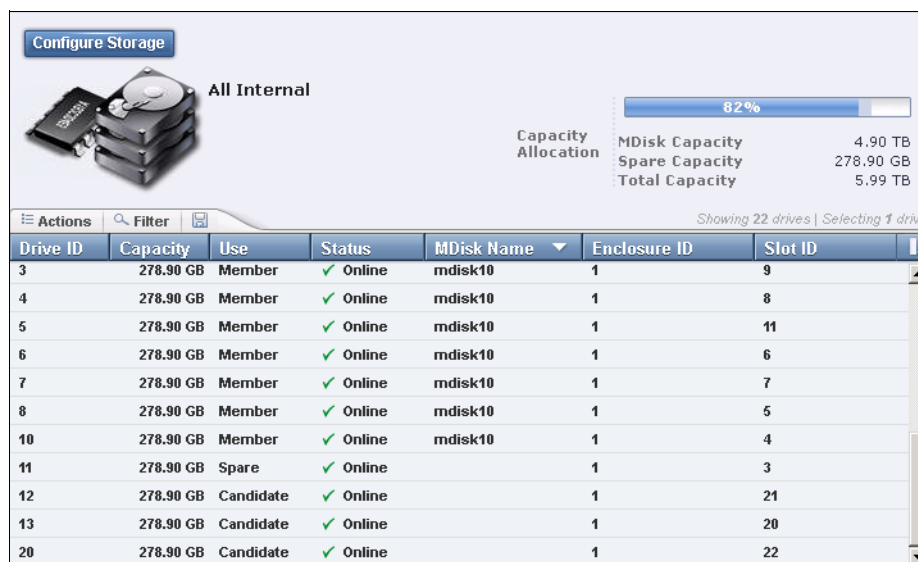

Figure 7-23 Configuration complete with performance optimized setup
3. Click **Finish** to finalize the wizard. After the wizard completes, the configuration changes are reflected at the upper right of the Internal Storage panel (Figure 7-23).